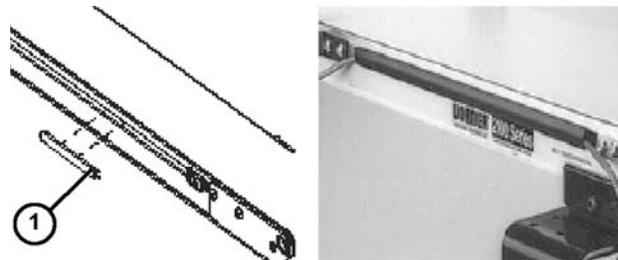

**Figure 22**
2. Attach photo eye assembly (**Figure 22, item 1**) to conveyor with screws (**Figure 22, item 2**).